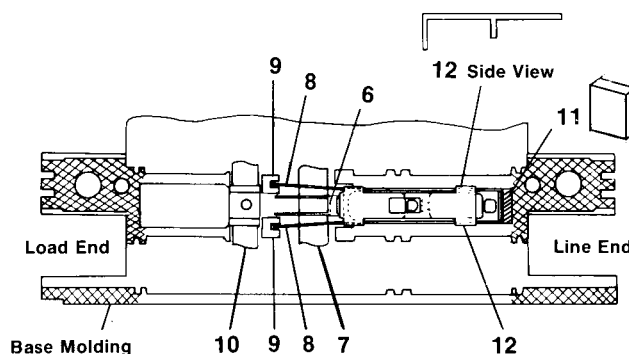

Fig. 5
4. Place auxiliary switch assembly in the molding cavity as illustrated in Fig. 5, fitting over the actuator lever (6). Side plates (8) must be positioned in the molding slots (9) near the tripper bar (10).
5. Position black fiber spacer shield (11) at top of switch assembly near line end of breaker.
6. Place auxiliary switch actuator (12) on top of the switch assembly with its formed leg toward the actuator lever (6) in position on the connector bar (7). See Fig. 5.